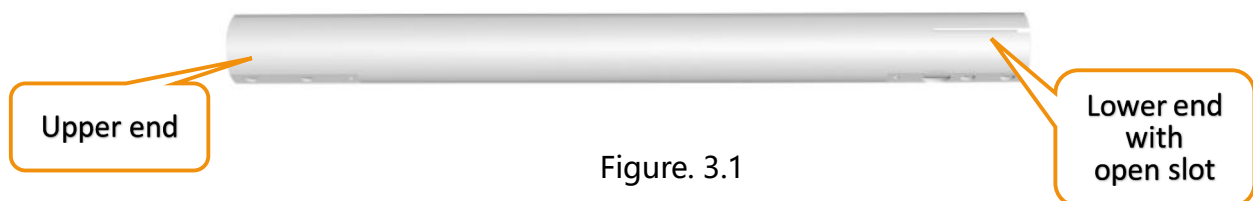

Figure. 3.1
- ① Distinguish the upper end and lower end of the extension tube. The one with an open slot is the lower end of the extension tube, vice versa the upper end (see Figure 3.1)